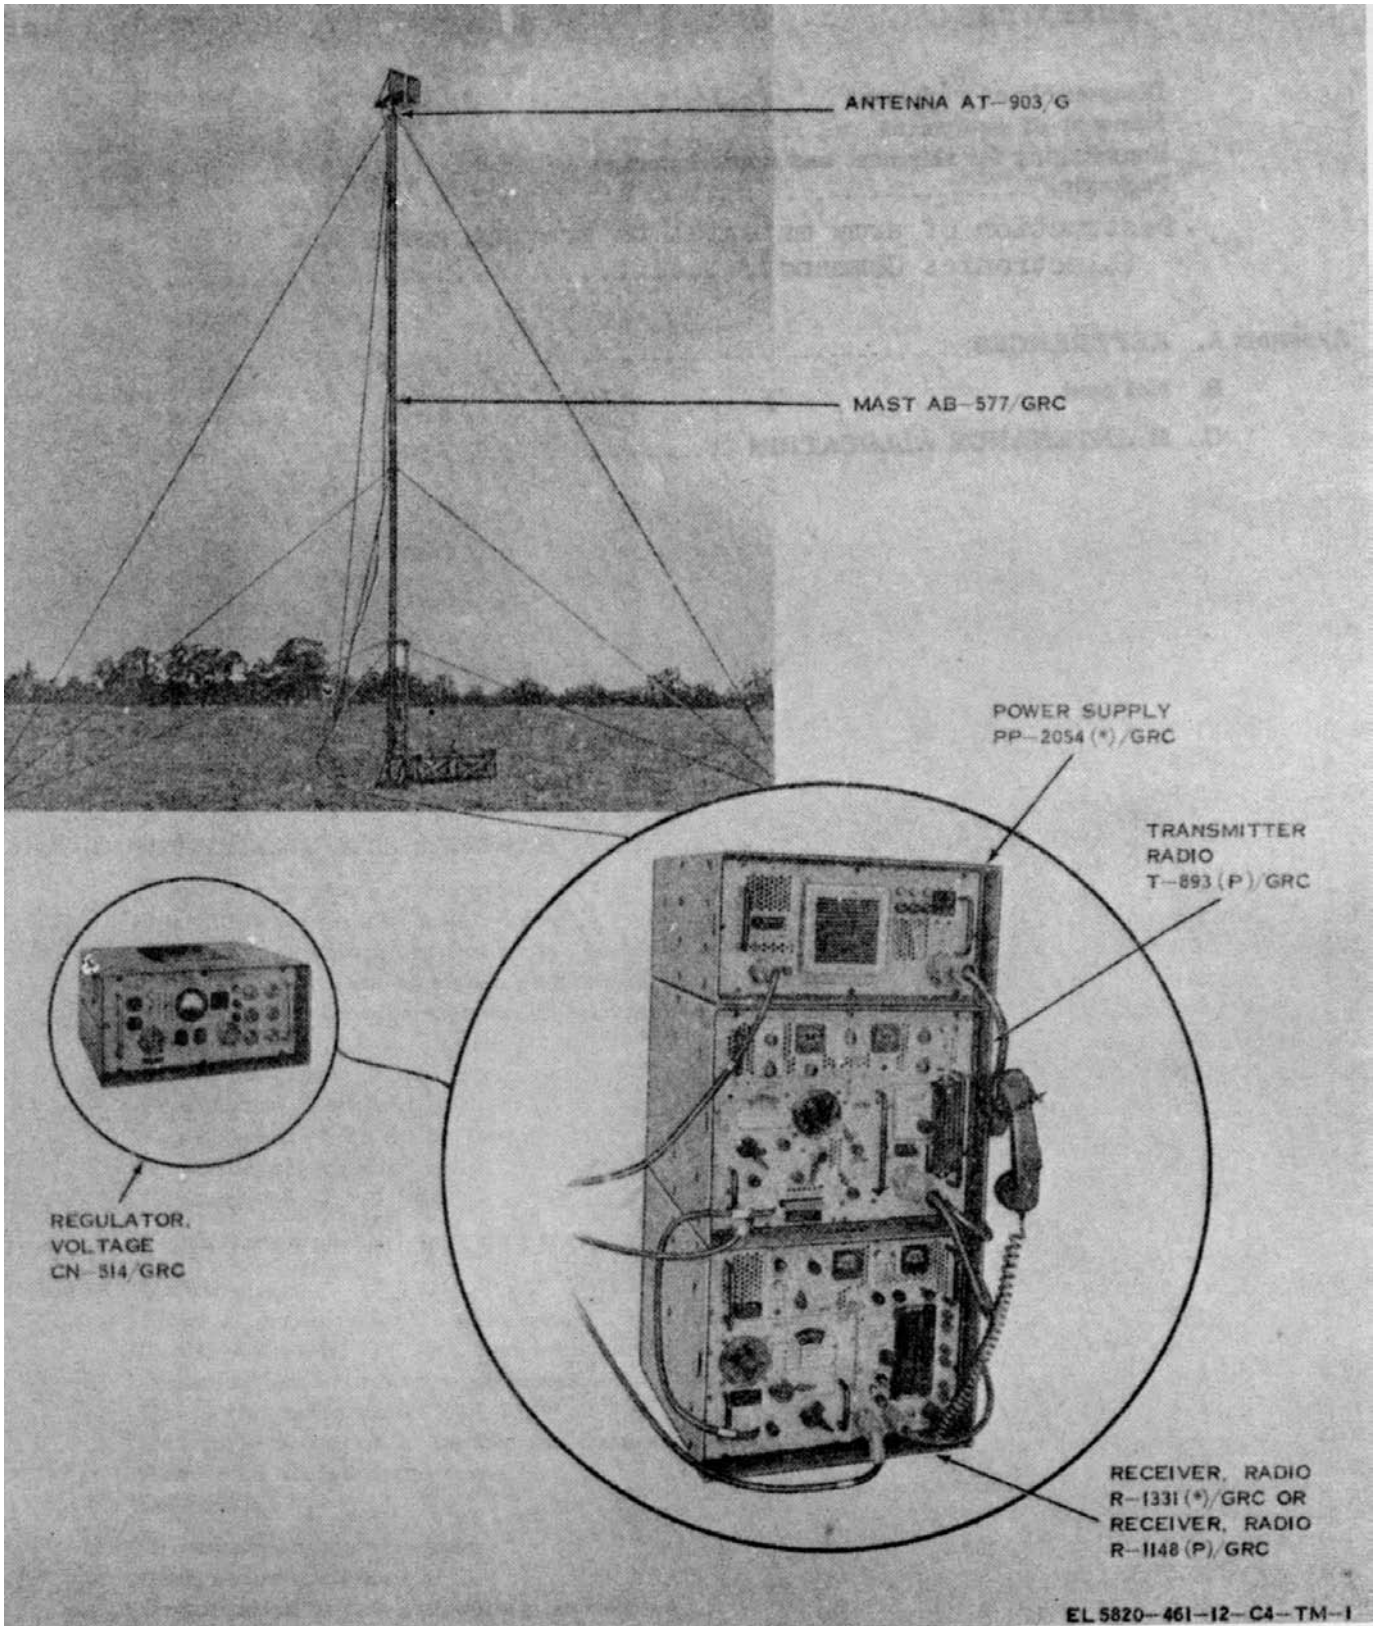

Figure 1-1. Radio Set AN/GRC-50(\*) IN operation.
a. This manual describes Radio Sets AN/GRC-50(V) 1, 2, 3, 4, and 5 and AN/GRC-50A(V) 1, 2,3,4, 5, 6, 7, 8, 9, 10, and 11. It covers their installation, operation, and operator's and organizational maintenance. The components of the radio sets are listed in paragraph 1-6.
b. and maintenance of Mast AB-577/GRC (figs. 1-1 and 1-8) are provided in TM 11-5820-538-12 which also includes information on the use of Extension Kit MK-806/GRC which is used to extend the height of the antenna to another 25 feet above the 50-foot height of the AB-577/GRC.
(1) Radio Set AN/GRC-50( )/V applies to all configurations of the radio set: AN/GRC-50(V) 1, 2, 3, 4, and 5 and AN/GRC-50A(V)1, 2, 3, 4, 5, 6, 7, 8,9, 10, and 11.
(2) Amplifier-Converter AM-1955( )/GRC applies to Amplifier-Converters AM-1955/GRC, AM-1955A/GRC, and AM-1955B/GRC (pare 1-14d).
(3) Amplifier-Converter AM-1956( )/GRC applies to Amplifier-Converters AM-1956/GRC, AM-1956A/GRC, and AM-1956B/GRC (pare 1-14d).
(4) Amplifier-Oscillator AM-1958( )/GRC applies to Amplifier-Oscillators AM-1958/GRC and AM-1958A/GRC (para 1-14e).
f. All references in this manual to Receiver, Radio R-1331 (\*)/GRC also apply to Receiver, Radio R-1331 (P)/GRC, Receivers, Radio R-1331A(P)/GRC, and R-1331B(P)/GRC unless otherwise specified (pare 1-14b and c).